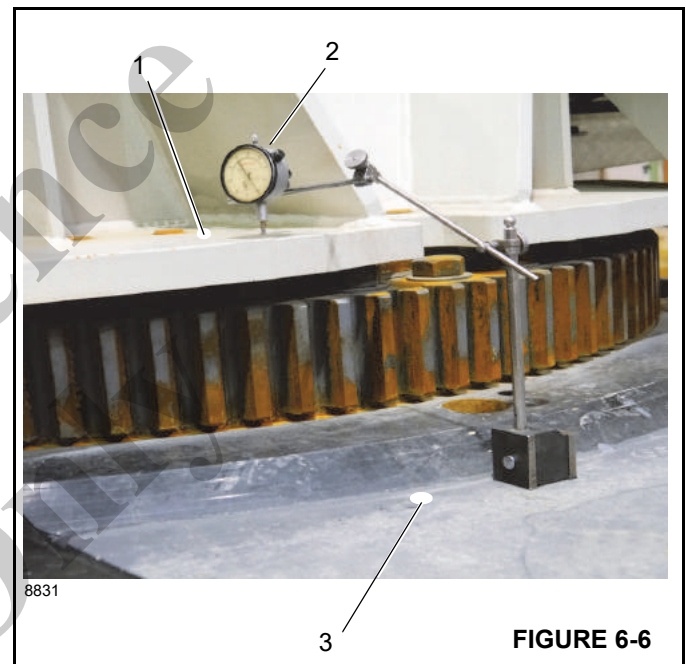

FIGURE 6-6
2. Put a dial indicator (2, Figure 6-6) opposite the boom on the T-box frame (3).
3. Place the dial on the top of the turret bearing plate (1, Figure 6-6).